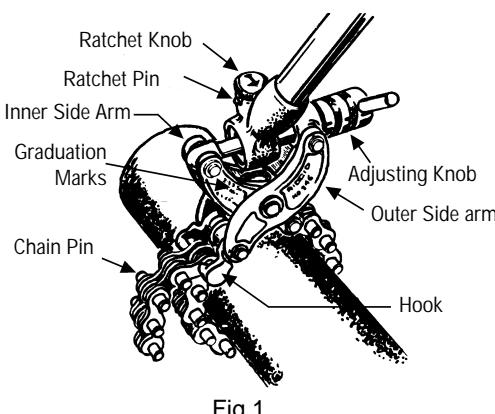

Fig.1
5. Turn ratchet knob so that arrow points to red handle. (See Fig. 1). Chain must be properly set to assure ample travel for cutting action.